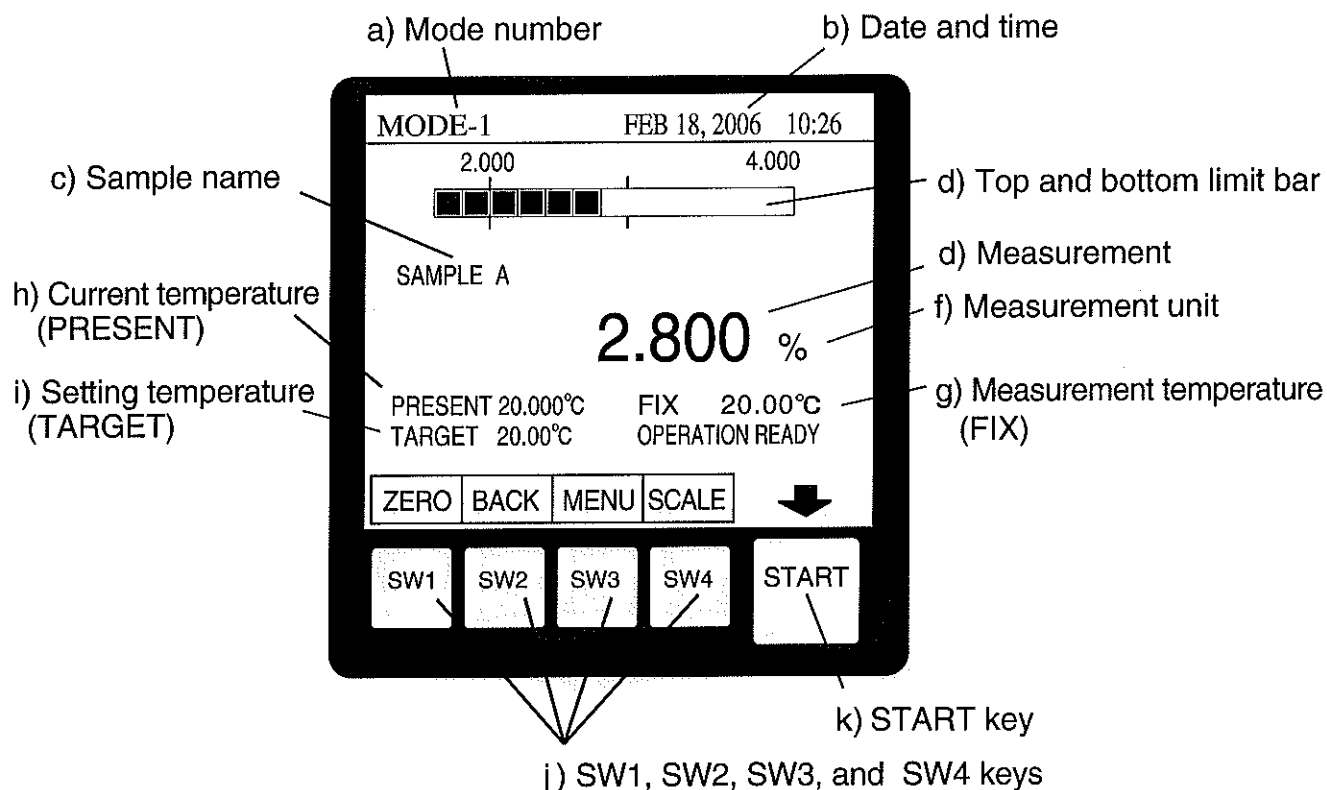

Fig. 4-5
(2)-2 When the top and bottom limit bar or the user scale is set (Fig. 4-5)